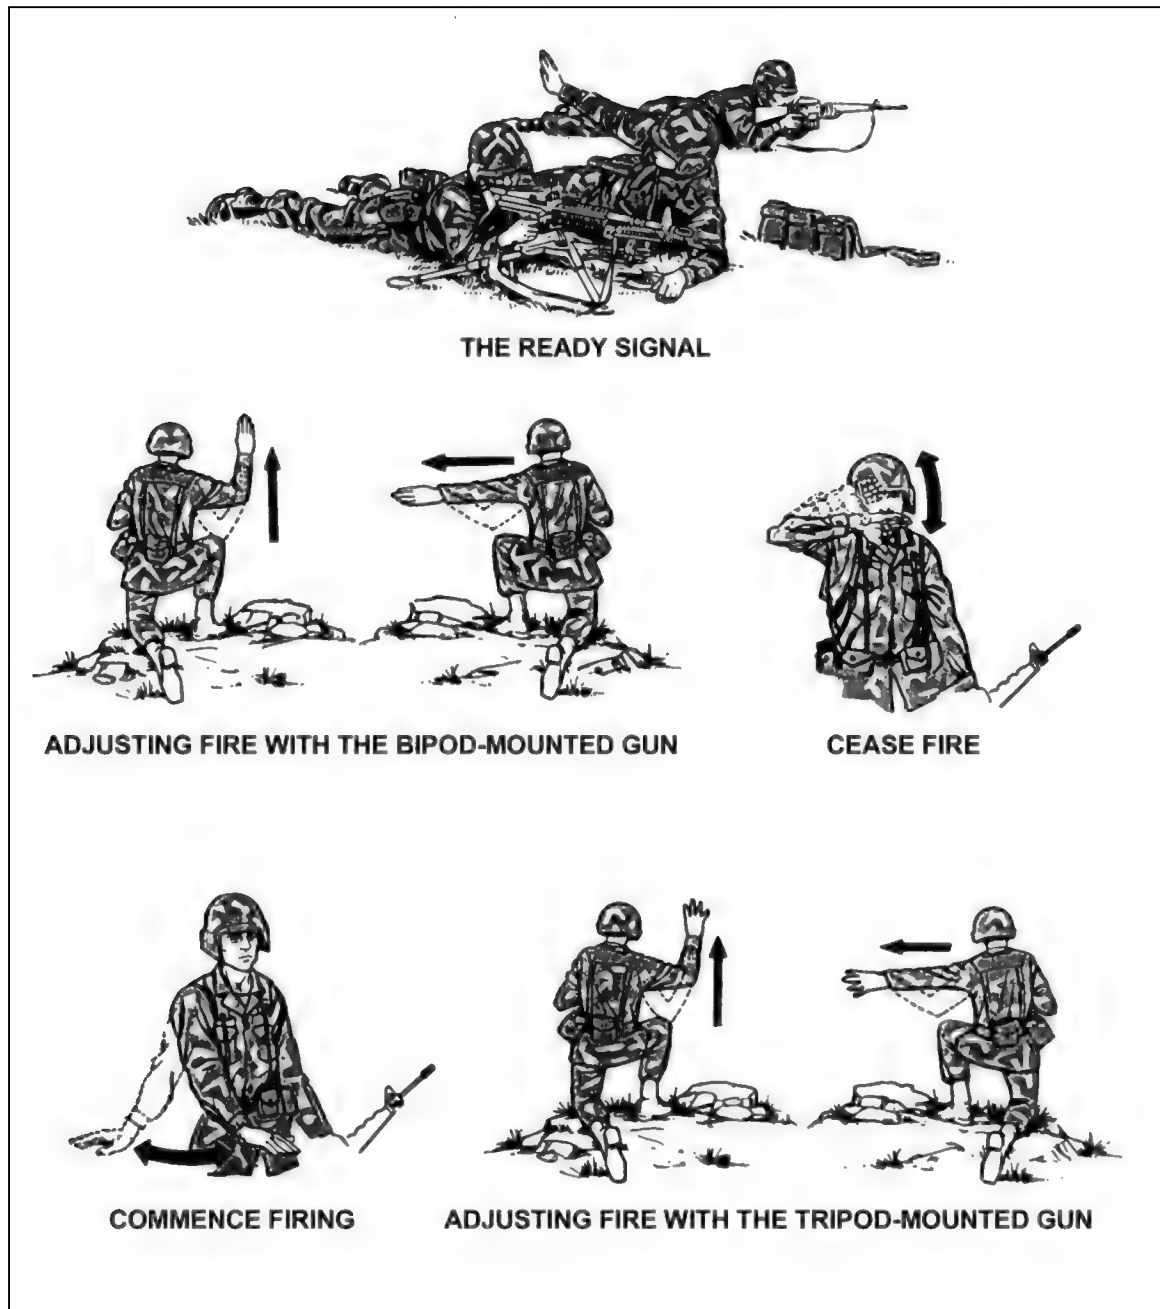

Figure 5-25. Arm-and-hand signals.
(2) *Arm-and-Hand Signals.* Battlefield noise and the distance between the gunner and the leader often make it necessary to use arm-and-hand signals to control fire (Figure 5-25). When an action or movement is to be executed by only one of the gunners, a preliminary signal is given to that gunner only. The following are commonly used signals for fire control.